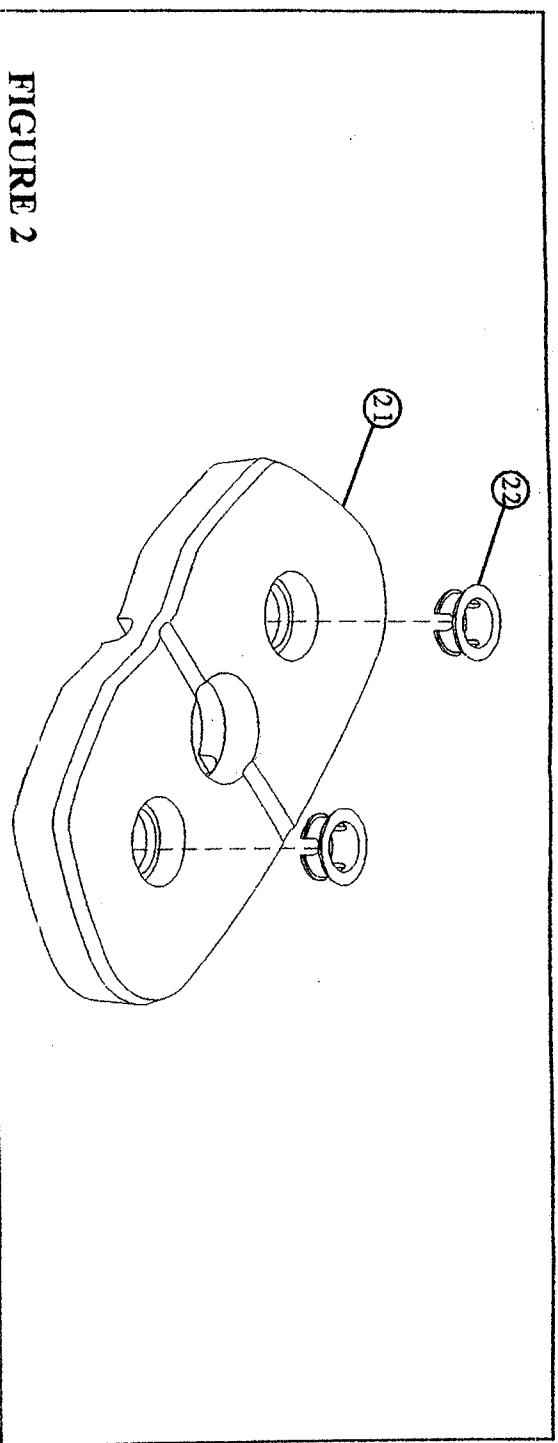

FIGURE 2
- Insert two WEIGHT PLATE BUSHINGS (22) into each of the fifteen WEIGHT PLATES (21) as shown in FIGURE 2.